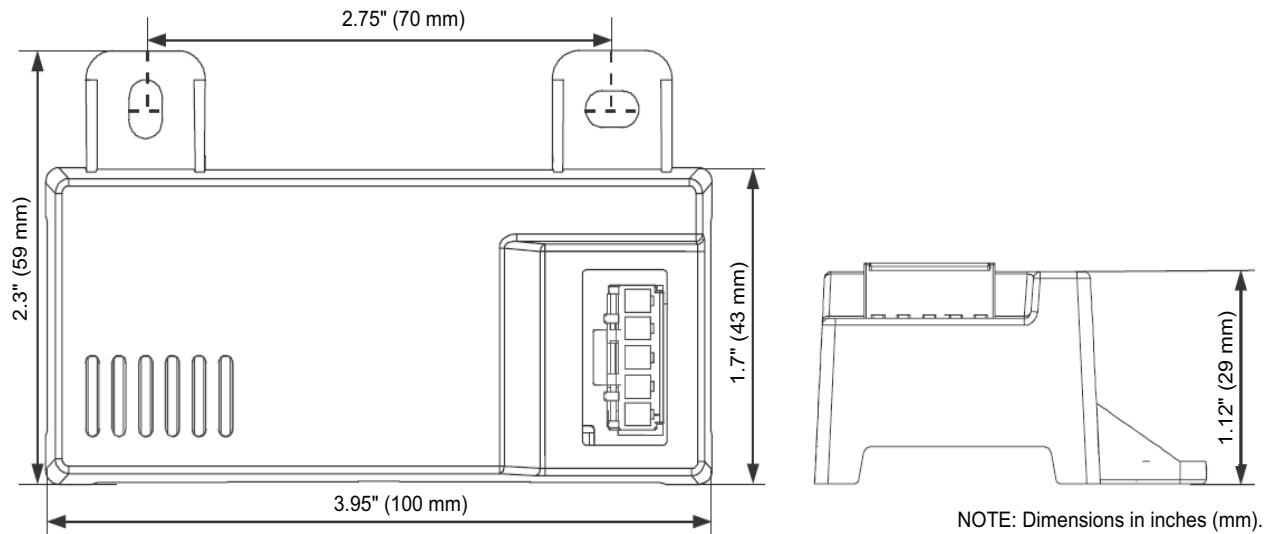
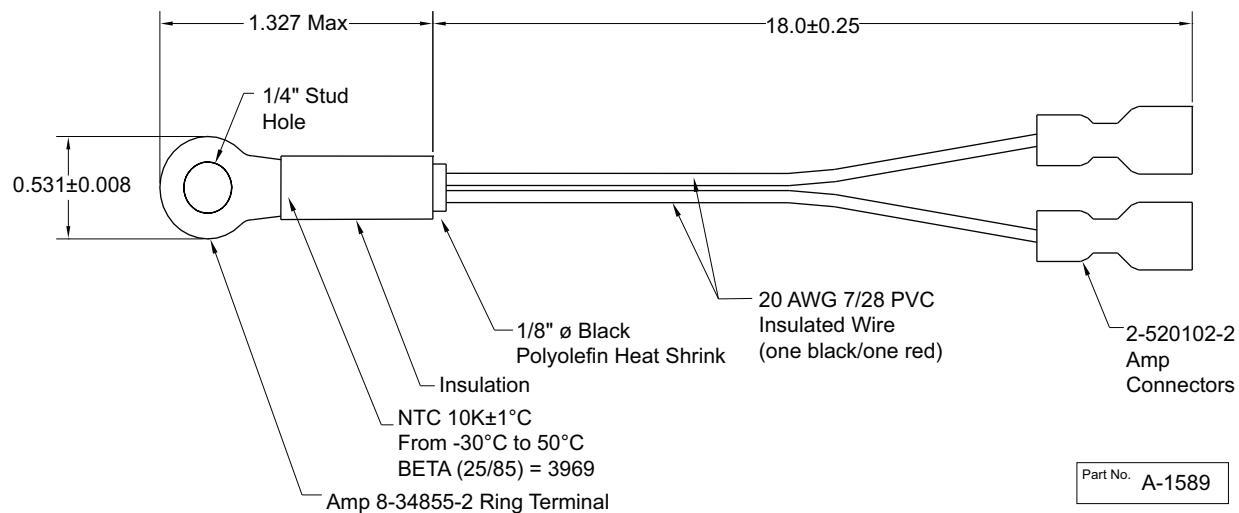
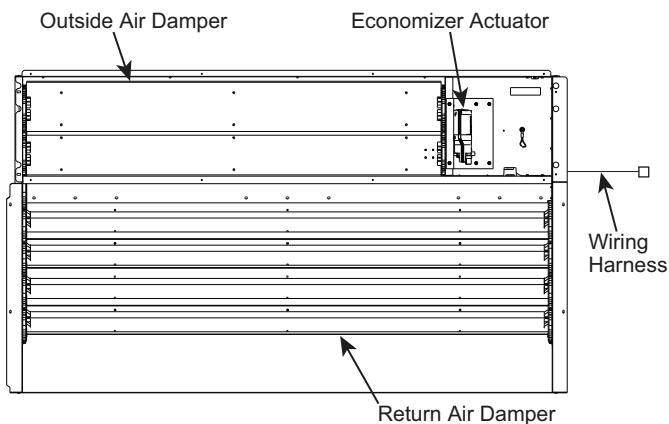

Fig. 82 – HH57LW001 Dimensional, Connection and Switching Information
Fig. 83 – HH79NZ039 Dry Bulb and Mixed Air Sensor Wiring
Fig. 84 – EconomizerONE System Component Locations
When using the HH57LW001 enthalpy sensor (see Fig. 82) for outside air changeover, the existing HH79NZ039 dry bulb sensor (see Fig. 83) must be removed. The enthalpy sensor will be mounted in the same location as the dry bulb sensor (see Fig. 84). When the enthalpy sensor's OA (Outside Air) temperature, enthalpy, and dew point are below their respective set points, outside air can be used for free cooling. When any of these are above their set point, free cooling will not be available. Enthalpy set points are configurable and create an enthalpy boundary according to the user's input. For additional details, see Fig. 85-86 and Table 31.
The optional enthalpy control sensor (P/N: HH57LW001) communicates with the POL224 economizer controller using the 5-wire harness, 48TC005213. The HH57LW001 sensor can be used as a single outside air enthalpy, a differential return enthalpy, or a differential return temperature sensor. Refer to the base unit control wiring diagrams found earlier in this book to wire the HH57LW001 enthalpy sensor for each option. See Fig. 82 and Table 33 on page 73 to locate the wiring terminals for each enthalpy control sensor.
Economizers are shipped standard with an HH79NZ039 outside air dry bulb sensor (refer to Fig. 83). System default setting (high temp limit) is 63°F (17°C) and has a range of 48°F to 80°F (9°C to 27°C). Sensor is factory installed on economizer.
If installing the optional HH57LW001 enthalpy sensor, the HH79NZ039 dry bulb outside air sensor must first be removed. Wire sensor to harness 48TC005213 and the (5) wires from the harness to the EconomizerONE harness in the return air chamber. Harness 48TC005213 has a 5-pin plug that connects directly to the HH57LW001 enthalpy sensor. Refer to the base unit control wiring diagrams earlier in this book for wiring connections. Refer to Fig. 82 and see Table 33.